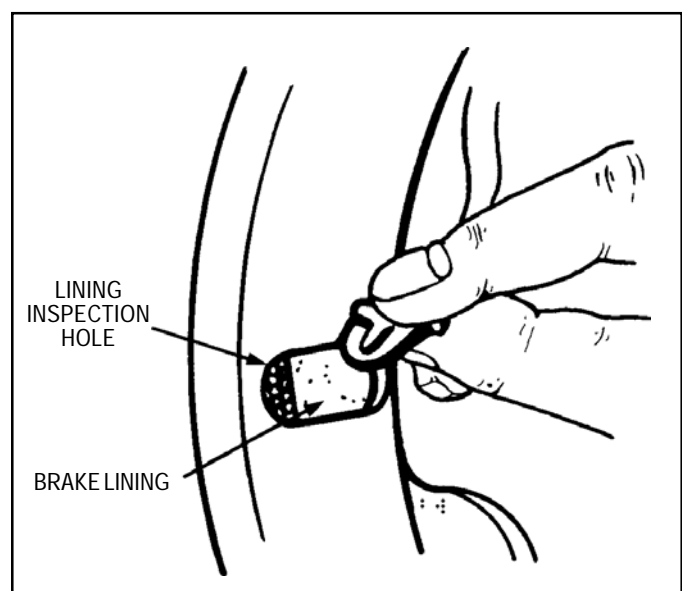

FIGURE 26 - BRAKE SHOE INSPECTION HOLE
1. Manually adjust both wheel cylinders through the adjusting holes, *Figure 10*, until the shoe to drum clearance is less than .76 mm (.030"). Check the shoe to drum clearance by using a feeler gauge through the lining inspection holes, *Figure 26*.